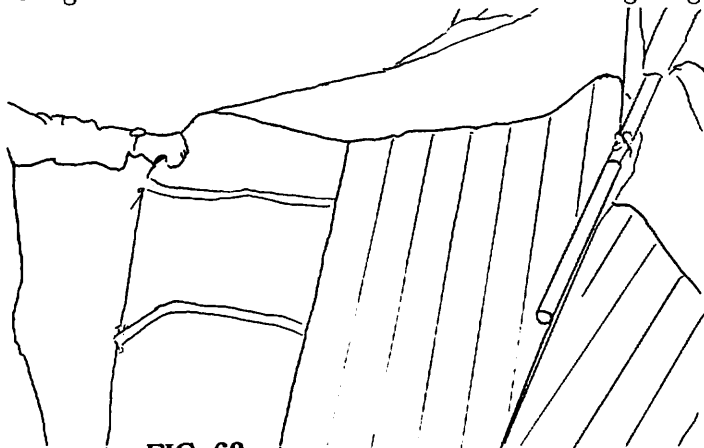

FIG 62
8) Remove the washout tips. Fold the wings in pulling the sail over the top of the leading edges. (Fig 62)